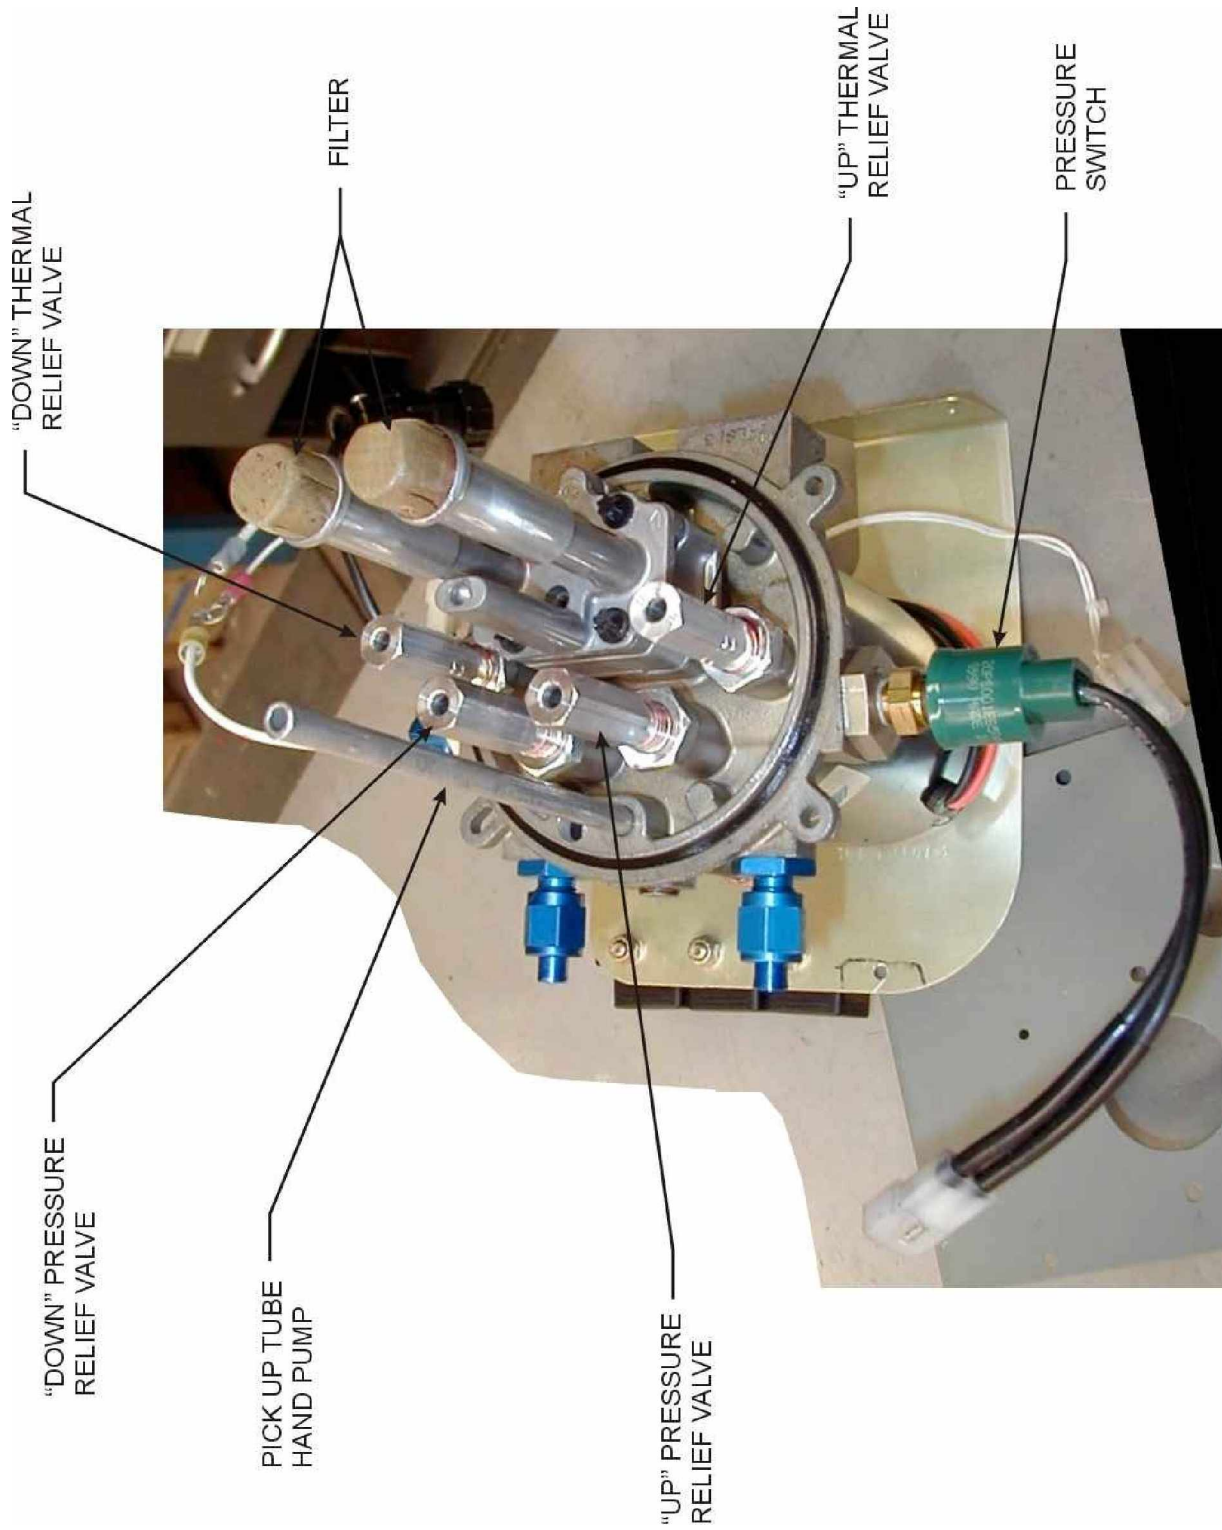

Figure 8-2. Internal View Hydraulic Pump
- 2) If adjusting, refer to Figure 8-2 for location of relief valves.